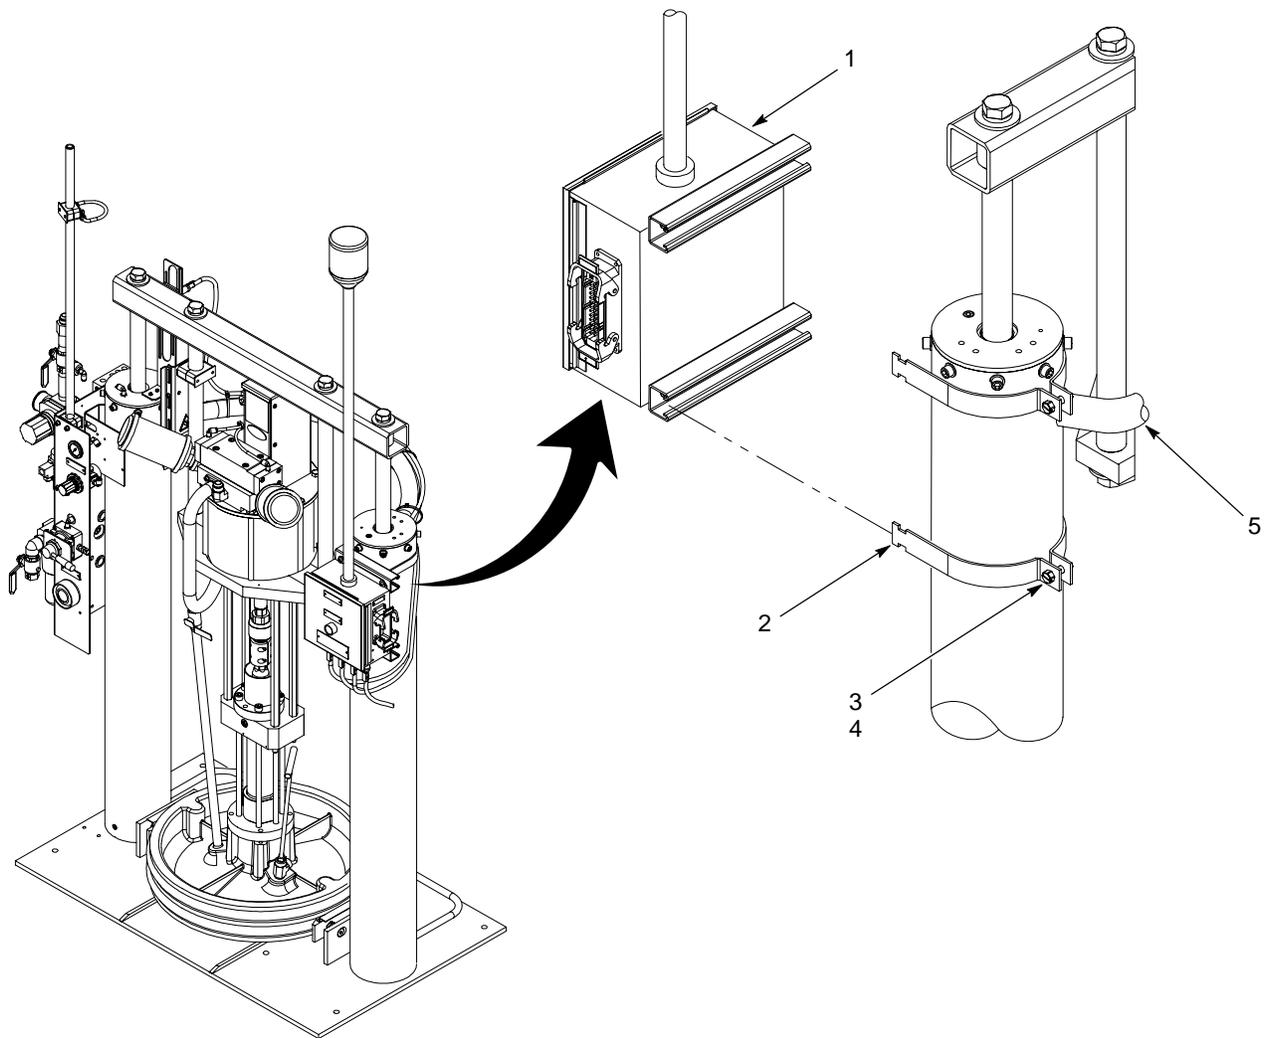

Figure 2 Cable Connections
1. See Figure 2. Loosen the nuts (3) and screws (4) on the clamps (2). Install the top clamp (2) above the air crossover tube (5).
2. Install the J-box (1) onto the clamps (2). Tighten the nuts (3) and screws (4) securely.